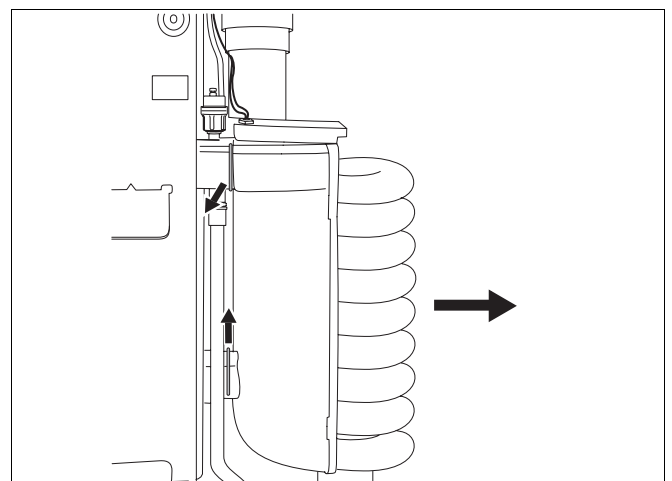

Fig. 34 Securing pin on spiral heat exchanger
- Remove securing pin on flow and return connection conduit (fig. 34) of heat exchanger.
- Remove spiral heat exchanger by pulling towards front (fig. 34). Drain any water remaining in the heat exchanger into the condensate trap.